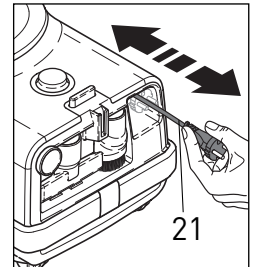
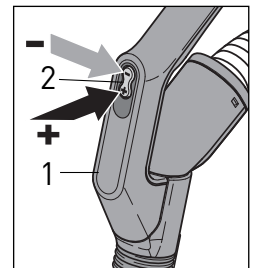
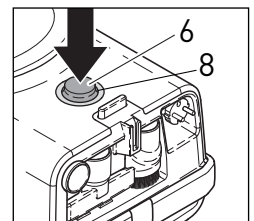

Figure 3
Figure 4
Figure 5
2. Grasp the plug and pull the power cord (21) out from the power cable recess (figure 3). The power cord should be unwound from the cable reel at least two thirds of its length or approx. twenty-five feet. Do not over extend the cord. **DO NOT PLUG INTO POWER SOURCE UNTIL STEP 3 BELOW.**
3. Grip the handle of the hose (1) with your thumb over the power control rocker (#2, figure 4).
5. If the canister powers up as soon as you plug it in, note that the blue LED light (8) around the on/off button (6) will pick up speed as the suction on the canister increases (figure 5). It will reach full power in a few seconds.
6. If the canister does not power up as soon as you plug it in, gently press the on/off button on the canister (6) with your hand or foot.
7. Press the (-) on the power control rocker (2) to decrease the suction or the (+) to increase the suction on the canister (figure 4). You can press the rocker several times or hold it down steadily until you reach the suction desired.
8. If you continue to press the (-) you will eventually put the canister in stand-by mode. Stand-by mode means that the canister is plugged in, but not running. Note that when the canister is in stand-by mode, the blue light (8) around the on/off switch on the canister blinks back and forth.
10. **BEFORE PROCEEDING WITH FURTHER ASSEMBLY AND USE**, turn off the vacuum with the on/off button on the canister (6) AND unplug the unit from the wall outlet.
1. Grasp the plug and pull the power cord (21) out from the power cable recess (figure 3). The power cord should be unwound from the cable reel at least two thirds of its length or approx. twenty-five feet. Do not over extend the cord. **DO NOT PLUG INTO POWER SOURCE UNTIL STEP 3 BELOW.**
2. Grip the handle of the hose (1).
4. Press the main power control knob on the base of the canister (6) gently with your foot or hand (figure 5). The blue light (8) will illuminate indicating that the power is on. Rotate the button to increase/decrease suction
5. **BEFORE PROCEEDING WITH FURTHER ASSEMBLY AND USE**, turn off the vacuum with the on/off button on the canister (6) AND unplug the unit from the wall outlet.